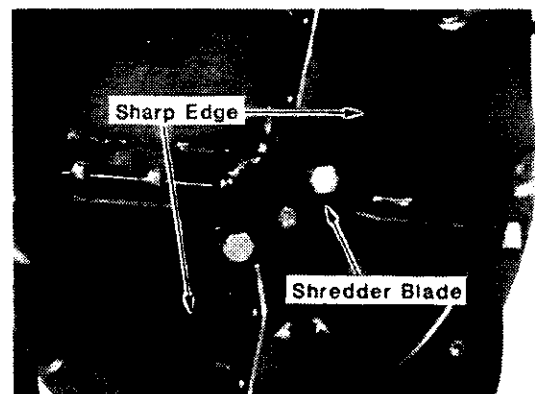

Fig. 10
8. Reinstall shredder blade on hub flange, being sure sharp edges on blade are positioned as shown in Fig. 10. Rotor turns counterclockwise when looking into rotor housing. If blade is installed backwards, it will not cut and shred material. Tighten nuts on shredder blade retaining bolts 21 to 24 ft. lbs. torque.